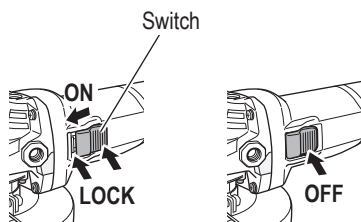

Fig. 16
2. Switch action <G3613DVE> (Fig. 16)
Turn the grinder "OFF" (Fig. 16)